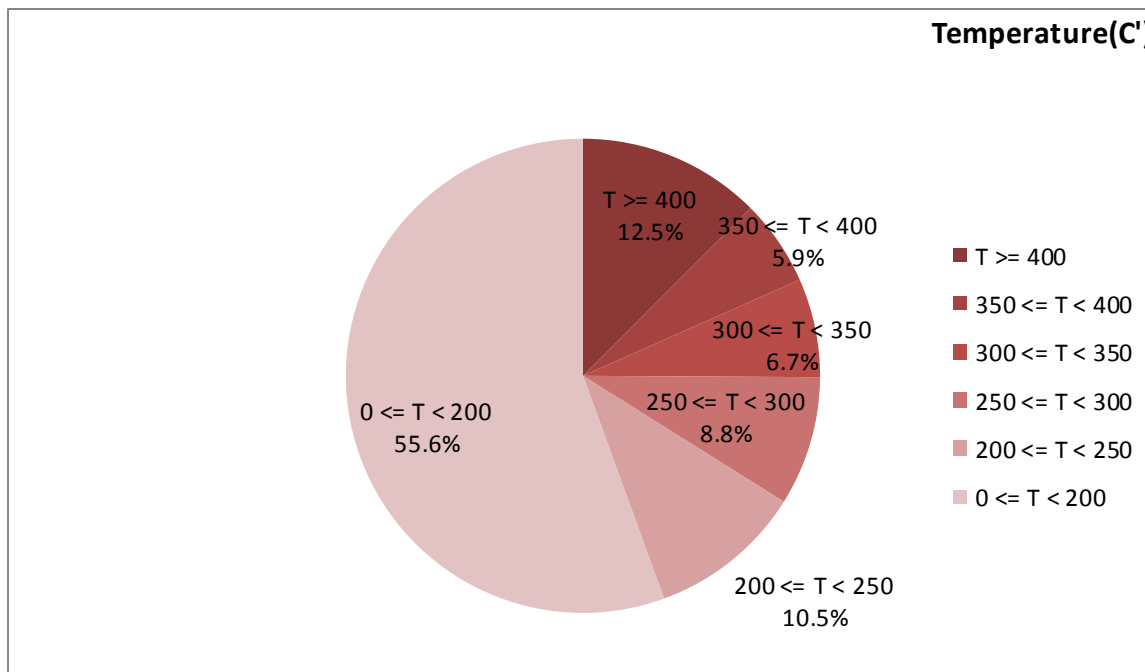

Figure 2-Temperature distribution over the working hours
- Figure 2 displays flow temperature before the DPF. It can be obviously observed that 12.5% of total working time temperature is above 400 °C and maximum temperature was 714 °C during this period.